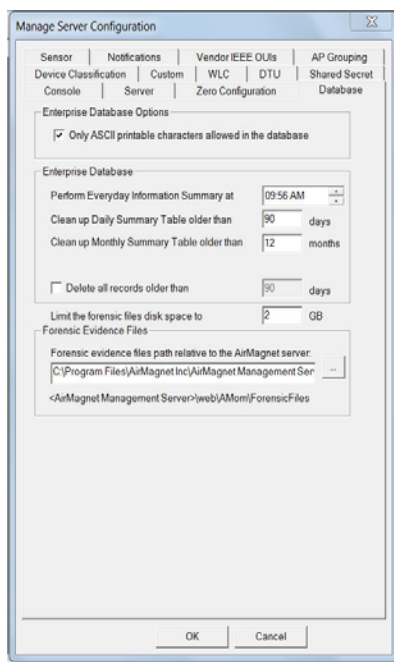

Figure 13-21: Scheduling database management
- 1) Click the Database tab. The AirMagnet Server Configuration screen refreshes. See Figure 13-21.